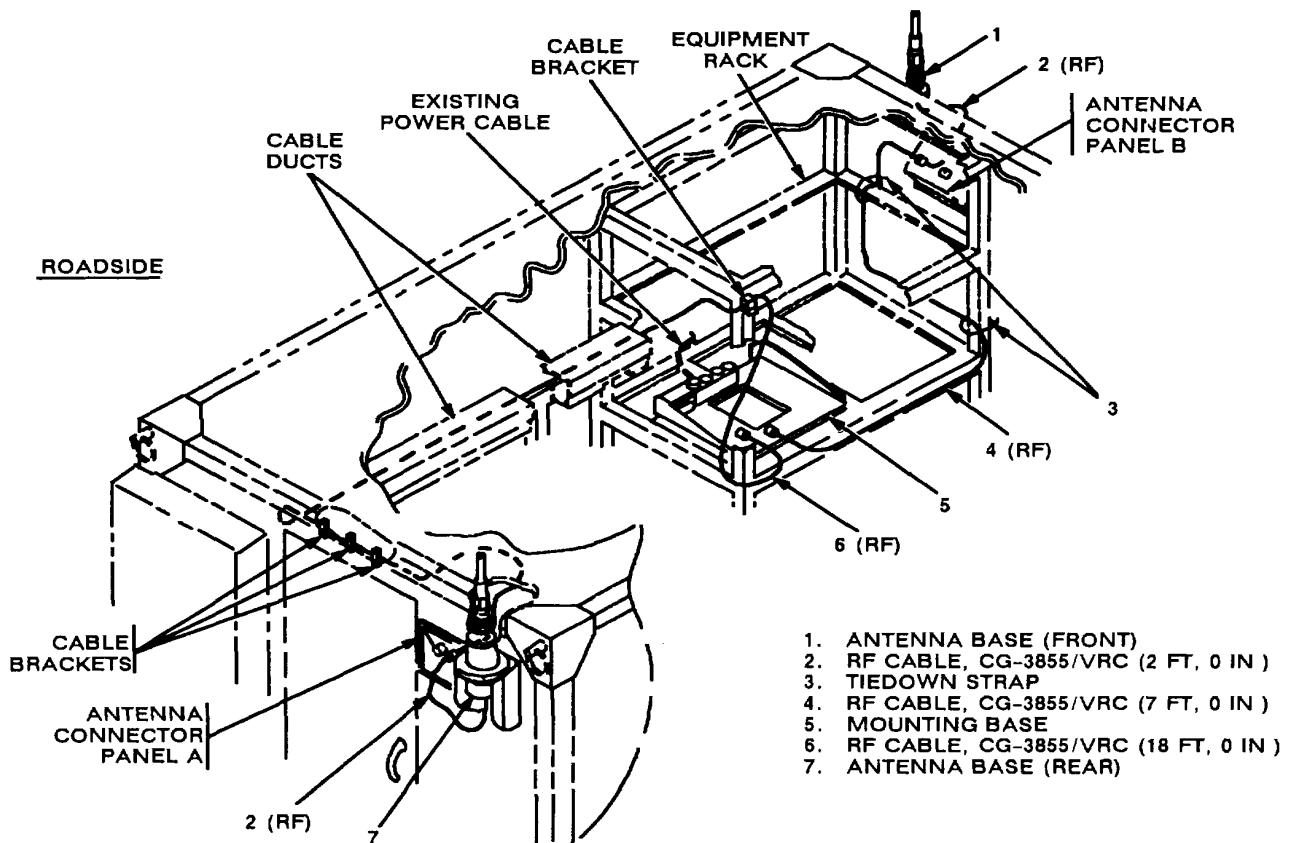

Figure 5-5. Cable Installation: Exterior and Interior Cabling
a. RF cable (2) connector	Connect and secure to antenna base (1) P1. connector J1. See figure 5-5.
b. RF cable (2) connector	Connect and secure to antenna connector P2. panel B.
c. RF cable (4) connector	Connect and secure to antenna connector P1. panel B.
d. RF cable (4) connector P2.	Position on top of mounting base (5).
e. Two tiedown straps (3).	Wrap around RF cable (4) and install loosely to side of equipment rack. See figure 5-5 for location(s).
f. RF cable (2) connector P1.	Connect and secure to antenna base (7) connector J1. See figure 5-5.
g. RF cable (2) connector P2.	Connect and secure to antenna connector panel A.
h. RF cable (6) connector P1.	Connect and secure to antenna connector panel A.
i. RF cable (6).	Route above rear doorway to roadside cable ducts; then position inside three existing cable brackets. See figure 5-5. for location(s).
j. Two cable ducts.	Open. See figure 5-5.
k. RF cable (6).	Route through two cable ducts to equipment rack.
m. RF cable (6) connector P2.	Position on top of mounting base (5).
n. Existing cable bracket on equipment rack.	Position RF cable (6) inside. See figure 5-5 for location(s).
o. Existing power cable.	Connect and secure to mounting base (5) connector J1. See figure 5-5.
p. Existing cable brackets (located above rear doorway and on equipment rack).	Adjust RF cable (6) slack; then close and secure.